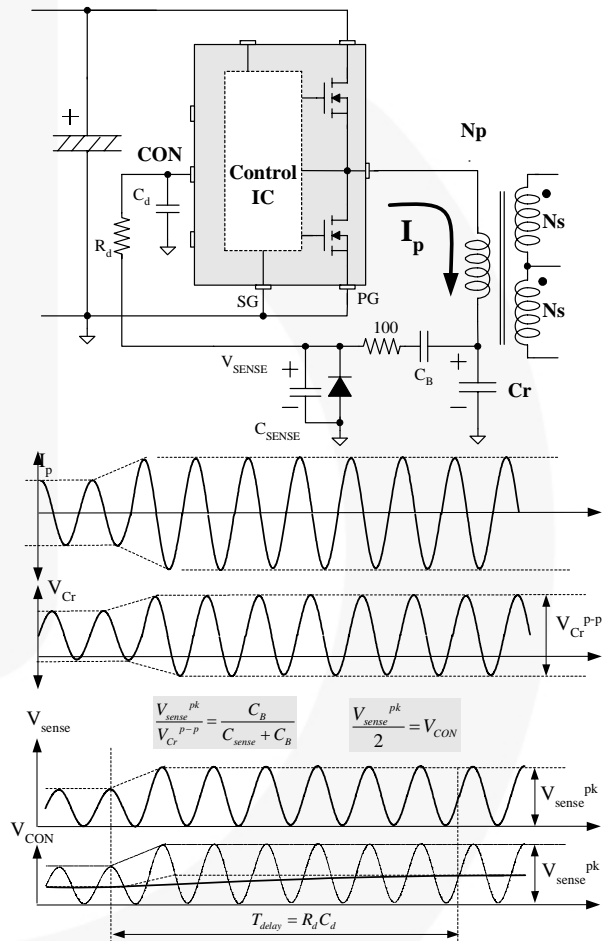

Figure 27. Current Sensing Using Resonant Capacitor Voltage
To minimize power dissipation, a capacitive voltage divider is generally used for capacitor voltage sensing, as shown in Figure 27.
5.3 Overload Protection (OLP): Overload is defined as the load current exceeding its normal level due to an unexpected abnormal event. In this situation, the protection circuit should trigger to protect the power supply. However, even when the power supply is in the normal condition, the overload situation can occur during the load transition. To avoid premature triggering of protection, the overload protection circuit should be designed to trigger only after a specified time to determine whether it is a transient situation or a true overload situation. Figure 27 shows a typical overload protection circuit. By sensing the resonant capacitor voltage on the control pin, the overload protection can be implemented. Using RC time constant, shutdown delay can be also introduced. The voltage obtained on the control pin is given as: